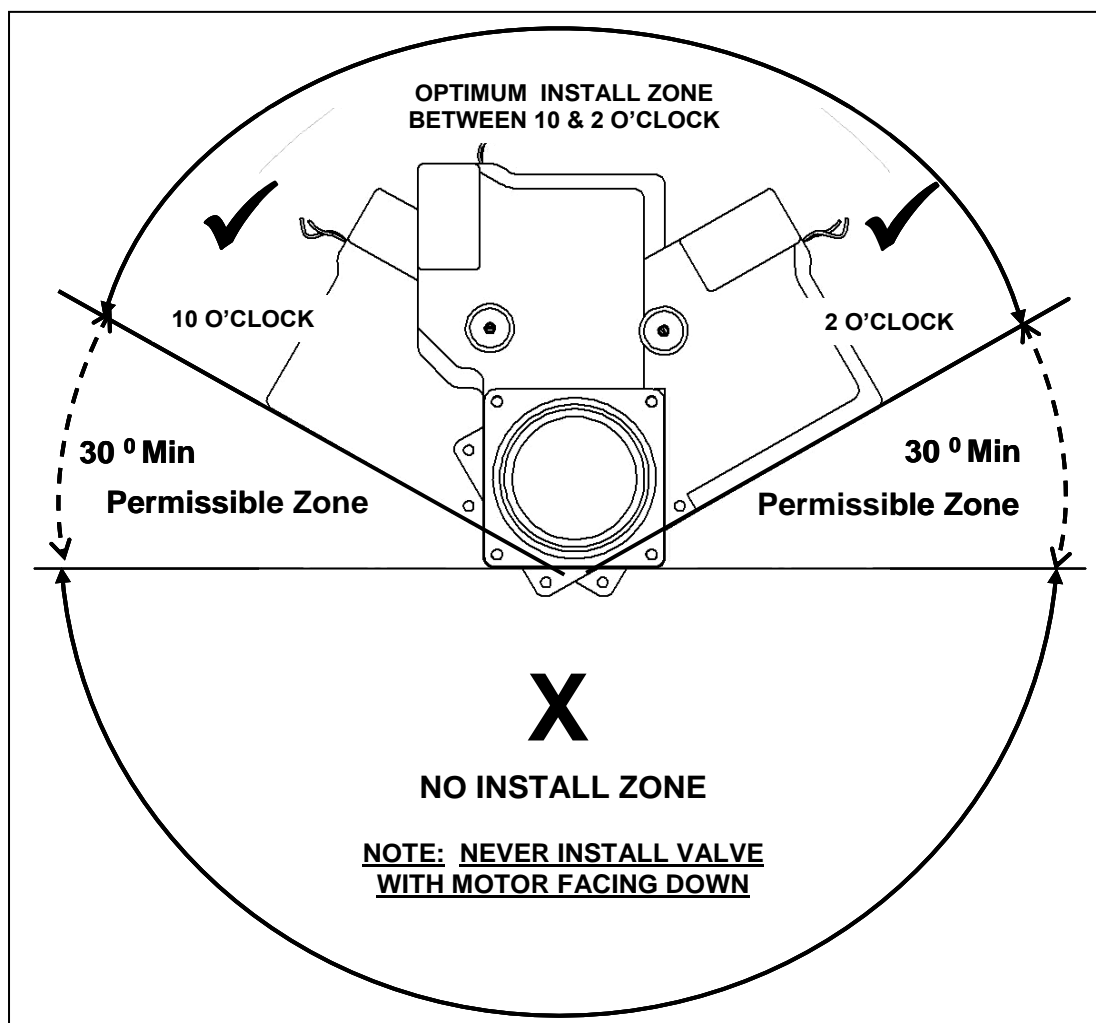

Fig.4
- Never install the Drain Master with the motor/gear/gate housing down. Must be installed vertically (see Fig. 4 how to install)
Step 7: Pay careful attention to the Optimum Install Zone shown in **Fig. 4** – the most ideal position is vertical with the motor up at the highest point.
Ref to **Fig. 4**: The optimum install zone is between 10 O'clock and 2 O'clock and within this zone the most ideal orientation is vertical (90 Deg). If the optimum zone Installation is not feasible, installation within the 30 Deg Permissible zone is acceptable. Refer Step 7 above.